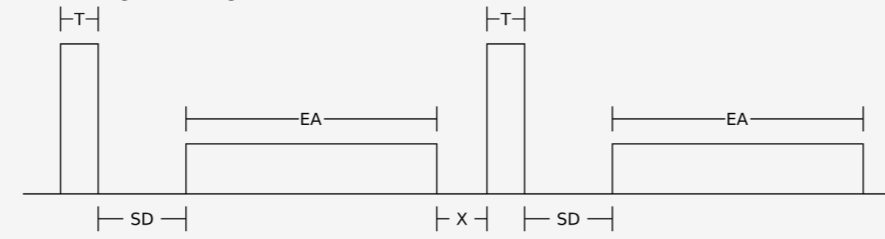

Figure 5. Shutter Open Delay
Figure 5 shows the process clearly. Upon receiving a trigger pulse (T), the shutter open delay begins and the shutter opens. Upon the end of the shutter open delay, exposure of the frame begins. As mentioned, a shutter